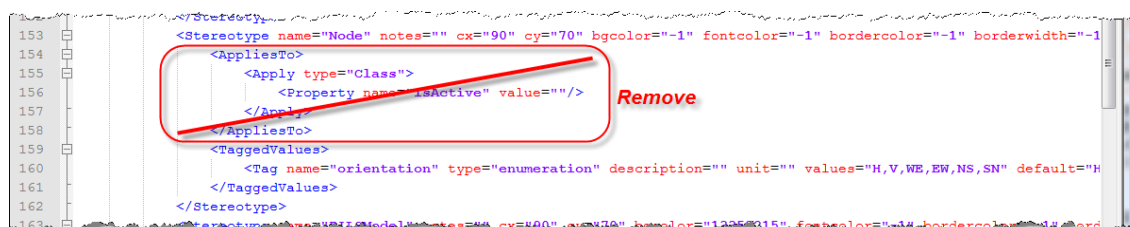

Figure 3-7: Modify profile xml file to prevent stereotype to appear in dropdown box.
- Second: Manually change the export profile XML file. Look for the entry of the stereotype Node and remove the tag `AppliesTo`. See figure 3-7.